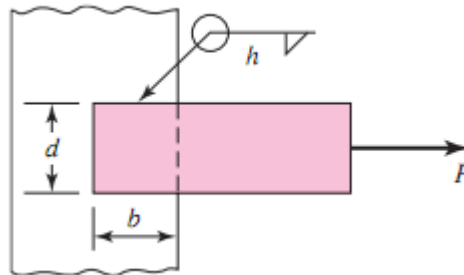

Figure 2/ Rajah 2
- b. **Figure 2** shows two plates are stacked joined by using a weld method.